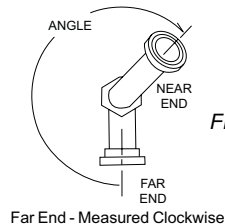

Figure AC.5
- 1) **Far End Reference - Measured Clockwise:** Using the furthest end as a base reference the angular displacement is measured clockwise to the center line of the far end (refer to figure AC.5).